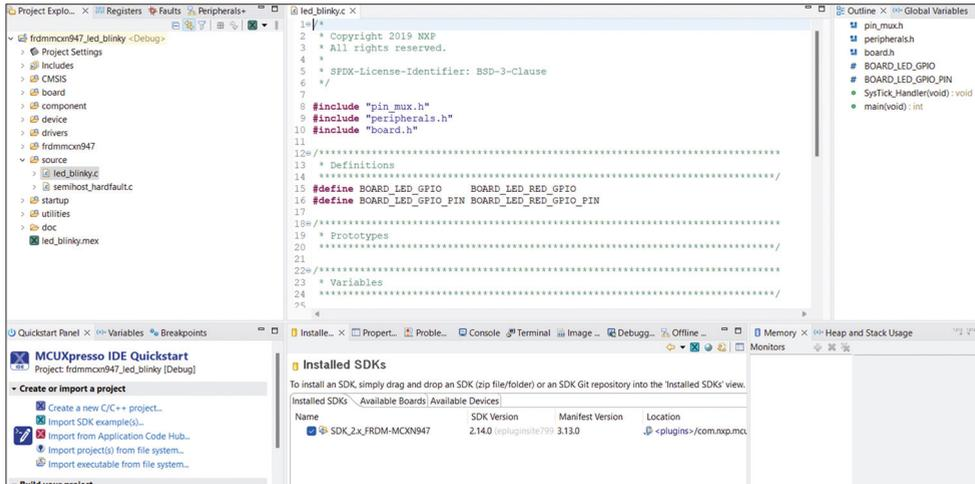

Figure 2.11: The IDE window.
- You should see the **File Explorer** at the left window, the program code in the middle window, the header filenames and functions used at the right-hand window, and the console terminal etc at the bottom of the window (Figure 2.11). Do not worry if you do not understand how the program works at this stage!